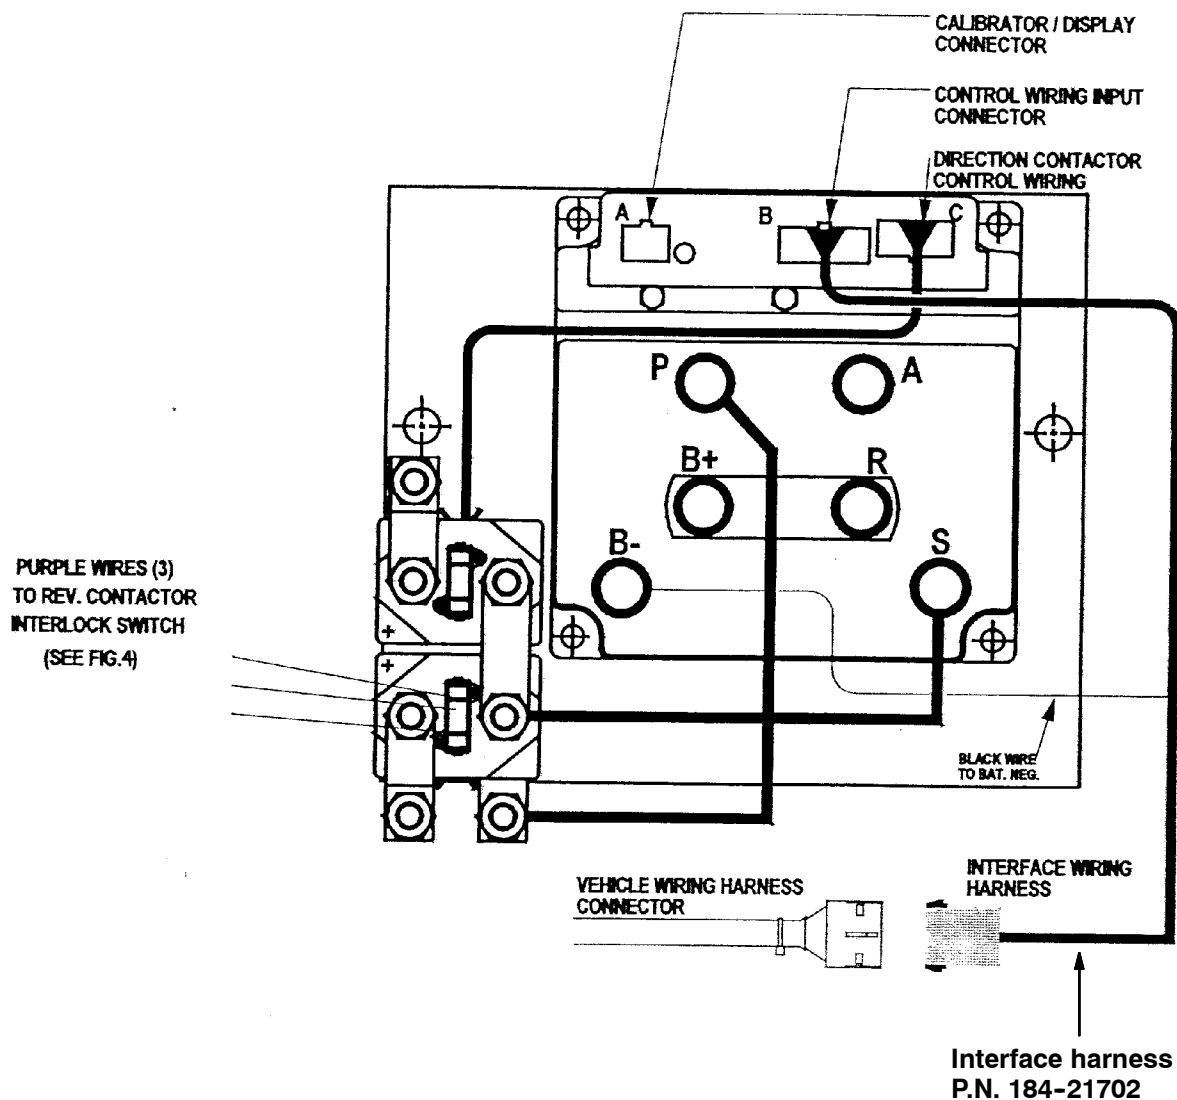

FIG. 3 - CONTROL WIRE CONNECTIONS
WIRING POWERPAK PANEL: (Refer to Fig. 3)
1. Connector "A" is the connection for the display or the calibrator. Refer to Fig. 3.
2. Connector "B" is the control wiring input plug. (This input plug reads signals from the accelerator pedal and directional switches). Plug the interface wiring harness into connector "B" and the black wire coming out of the harness to the "B-" stud. Refer to Fig. 3.
3. Plug the vehicle wiring harness into the interface wiring harness connector. Refer to Fig. 3.
4. Connector "C" is the control wiring to the direction contactor coils. This harness is wired up at the factory. Refer to Fig. 3.